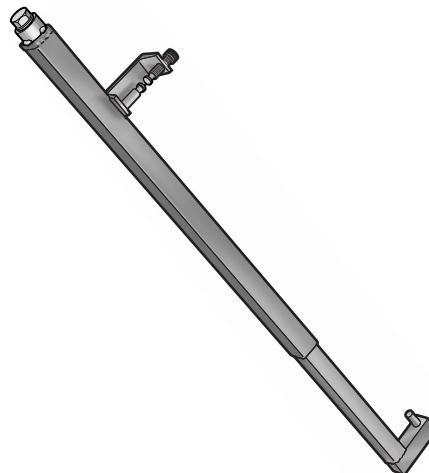

Figure 2-89. Front Fork Compressor
5. See Figure 2-89. Install the fork assembly in the FRONT FORK COMPRESSOR (Part No. HD-45966).